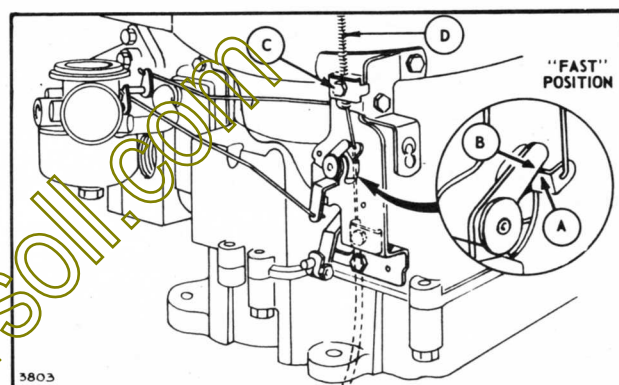

FIGURE 3-11
2. See figure 3-11. Check that the choke actuating lever "A" just makes contact with the choke link "B".